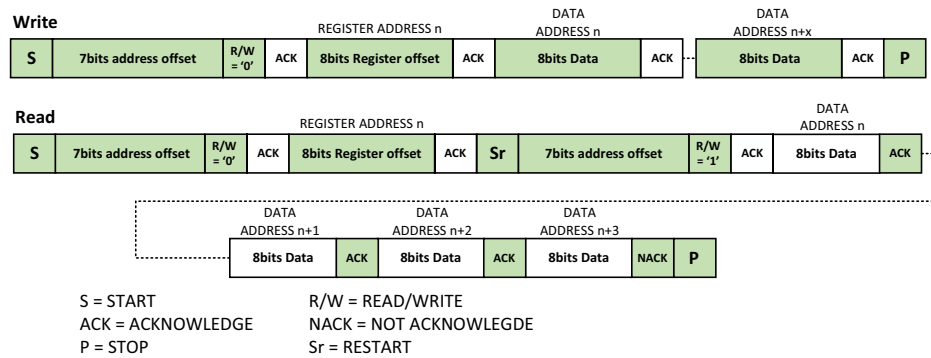

Figure 15: Read and write transmission
- If the master wants to end the transmission, it sends a NACK to notify the slave that the transmission is over, and then sends a stop bit (P). Both communications are described in the Figure 15. Refer to Table 12 for all register addresses.